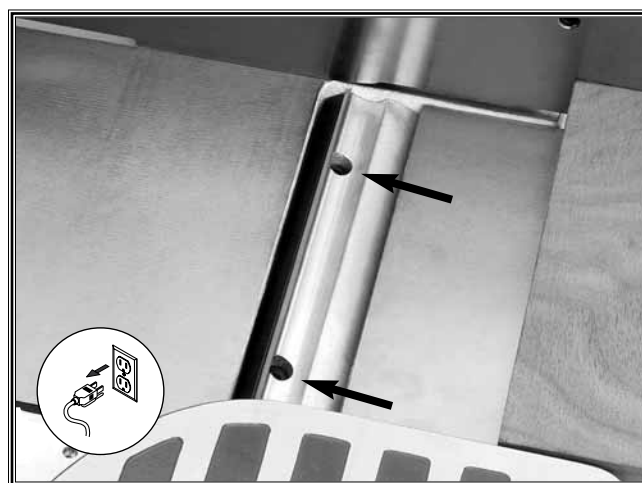

Figure 40. Jack screws.
8. Adjust the jack screws under the blade until both ends of the cutterhead blade make contact with the straightedge (**Figure 40**).